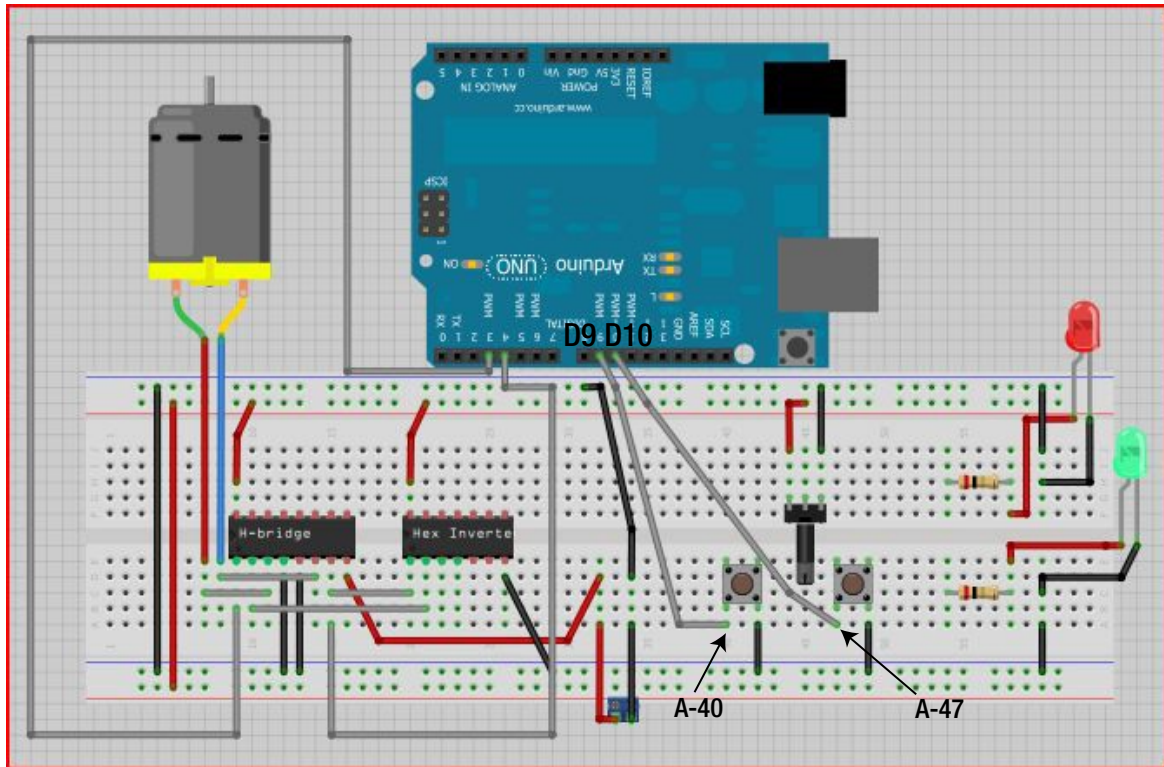

Figure 15-17. Attach the push buttons to the Arduino
25. Next, use another jumper wire to connect digital pin 9 (D9) of the Arduino to the other side of the first push button at A-40. Then connect digital pin 10 (D10) of the Arduino to the other side of the second push button at A-47. Figure 15-17 illustrates this process.